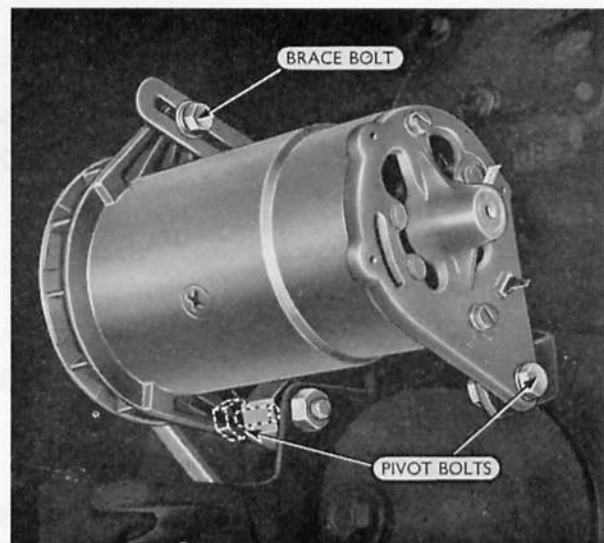

Fig. C.6. Generator mounting. The pivot bolts and brace bolts must be slackened when adjusting the fan belt tension
1. Slacken the generator pivot bolts, also the bolts securing the slotted brace (Fig. C.6).